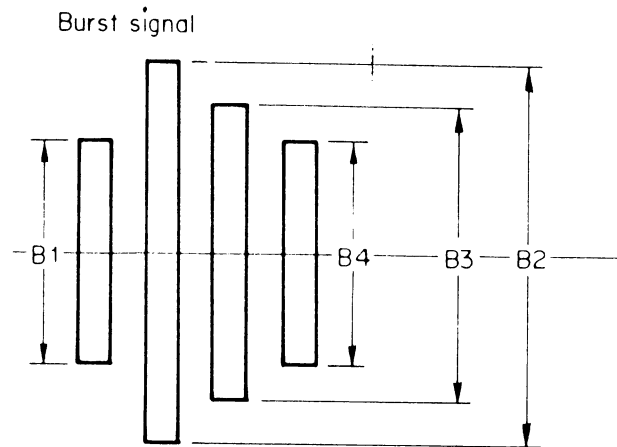

Fig. 306
6. After stepping in the head by one or several tracks from the original track position, step it out by the same number of steps to return it to the set track position, then measure values B1 to B4. Calculate the off-track amount as follows. (See Fig. 306)